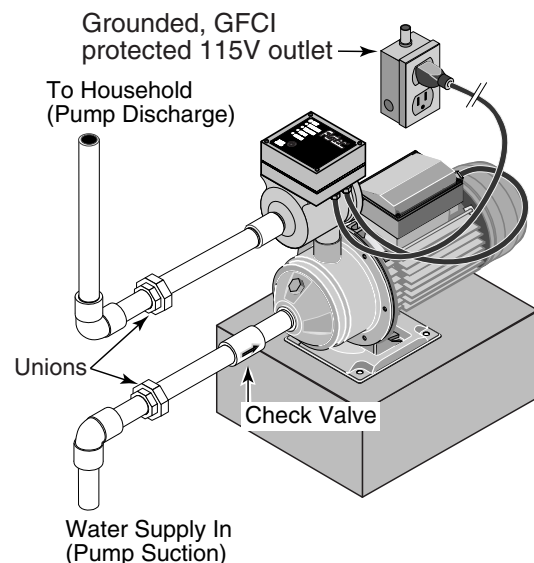

Figure 2: Typical household booster installation. Purchase plumbing fittings separately. Consult code for relief valve/pressure regulator requirements.
ing the full pump flow at 100 psi (689 kPa) (See Figure 2). If local code requires installation of a pressure relief valve capable of handling the full pump flow at a pressure less than 100 psi (689 kPa), follow the code requirements. Run the relief valve discharge to a floor drain or other drain that will give adequate runoff.
9. Install piping from elbows to pump including a union in each line and a check valve in the pump suction line. The arrow on the check valve must point to the pump suction (see Figure 2). If not already in the plumbing system, install a pressure relief valve in the pump discharge line capable of passing the full pump flow at 100 psi (689 kPa). If local code requires installation of a pressure relief valve capable of handling the full pump flow at a pressure less than 100 psi (689 kPa), follow the code requirements. A low pressure safety cutoff switch should also be installed in the discharge line, and may be required by your local codes.
⚠ WARNING Hazardous voltage. Risk of dangerous or fatal electric shock. Plug the pump into a 115 Volt, 60 Cycle, Ground Fault Circuit Interrupter (GFCI) protected grounded outlet only. The pump is equipped with a 3-wire grounded cord and plug. Do not modify or remove the plug. Make sure the outlet meets the National Electric Code or the Canadian Electrical Code, as applicable. To avoid dangerous electrical shock hazard, keep the cord dry at all times. See Figure 2.